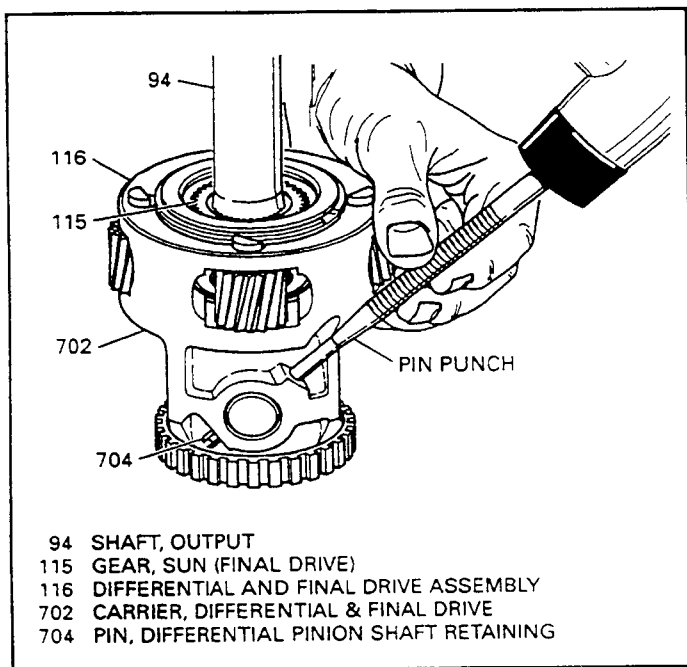

Figure 94
4. Remove the differential pinion shaft retaining pin (704) using a drift punch (See Figure 94).